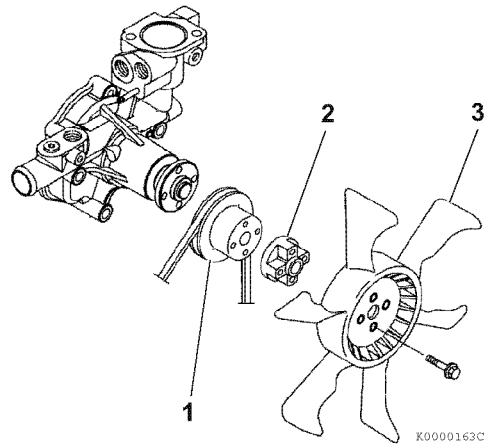

Figure 8-14
4. Reinstall the engine coolant pump V-pulley (1, **Figure 8-14**), spacer (2, **Figure 8-14**) engine coolant fan (3, **Figure 8-14**) and engine coolant fan guard (if equipped).